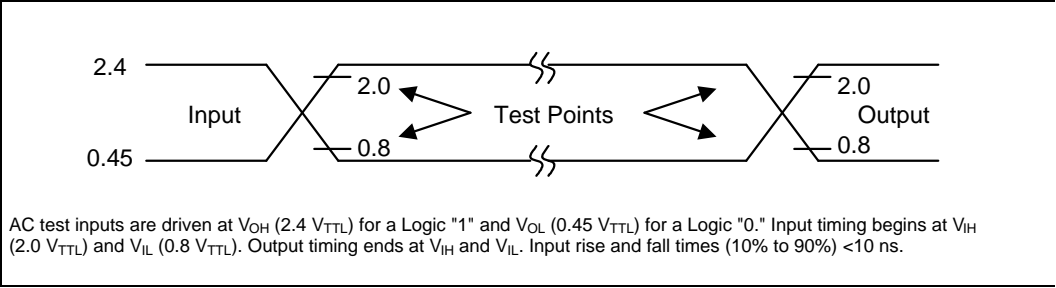

Figure 13. Transient Input/Output Reference Waveform for $V_{CCQ} = 5.0\text{ V} \pm 10\%$ (Standard Testing Configuration)
- See Figures 13–15, *Transient Input/Output Reference Waveform for V_{CCQ} = 5.0 V \pm 10%*, *Transient Input/Output Reference Waveform for V_{CCQ} = 2.7 V–3.6 V*, and *Transient Equivalent Testing Load Circuit* for testing characteristics.